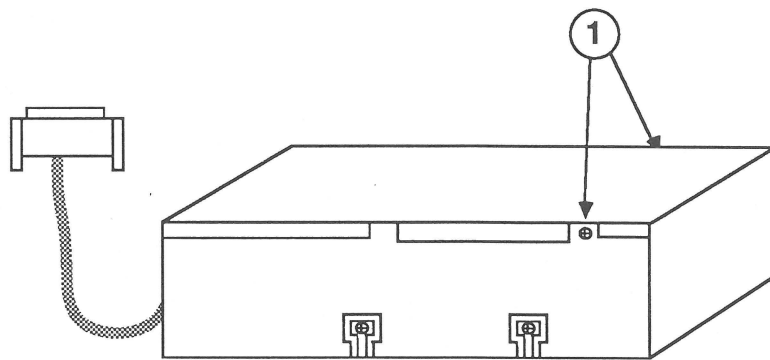

FIGURE 4
2. Remove the two Phillips screws (Figure 4, #1) that secure the shield cover to the shield case.